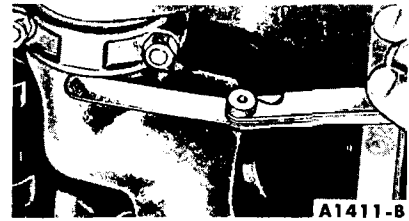

FIG. 45—Typical Connecting Rod Side Clearance
8. After the piston and connecting rod assemblies have been installed, check the connecting rod side clearance on each crankshaft journal (Fig. 45).